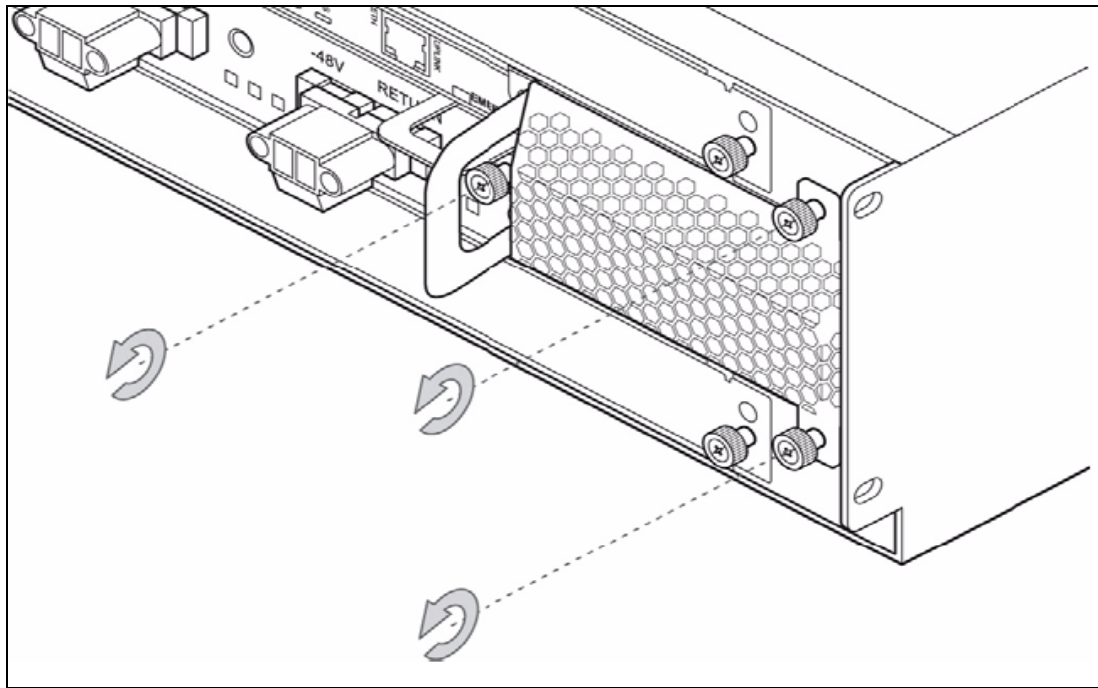

Figure C.5 - Fan Tray Mounting Screws (Rear)
3. Loosen the three mounting screws of the tray (see **Figure C.5**).